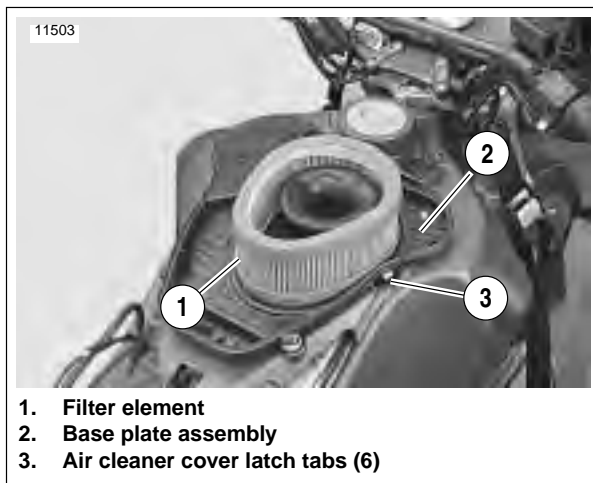

Figure 1-42. Installed Air Cleaner Filter Element
5. See Figure 1-42. Remove the filter element (1) from base plate (2). Inspect and replace if necessary.
See Figure 1-42. Cover the velocity stack so nothing can drop into the motor.
1. See Figure 1-42. Place filter element (1) on base plate (2).